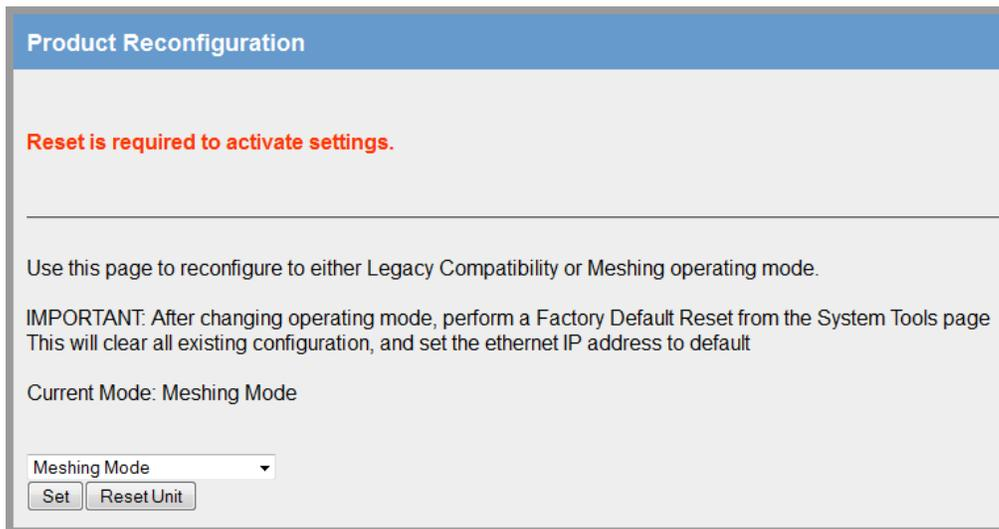

Figure 86 Product Reconfiguration
2. From the drop-down box (see Figure 86), select the from the following modes, and then click **Set**.